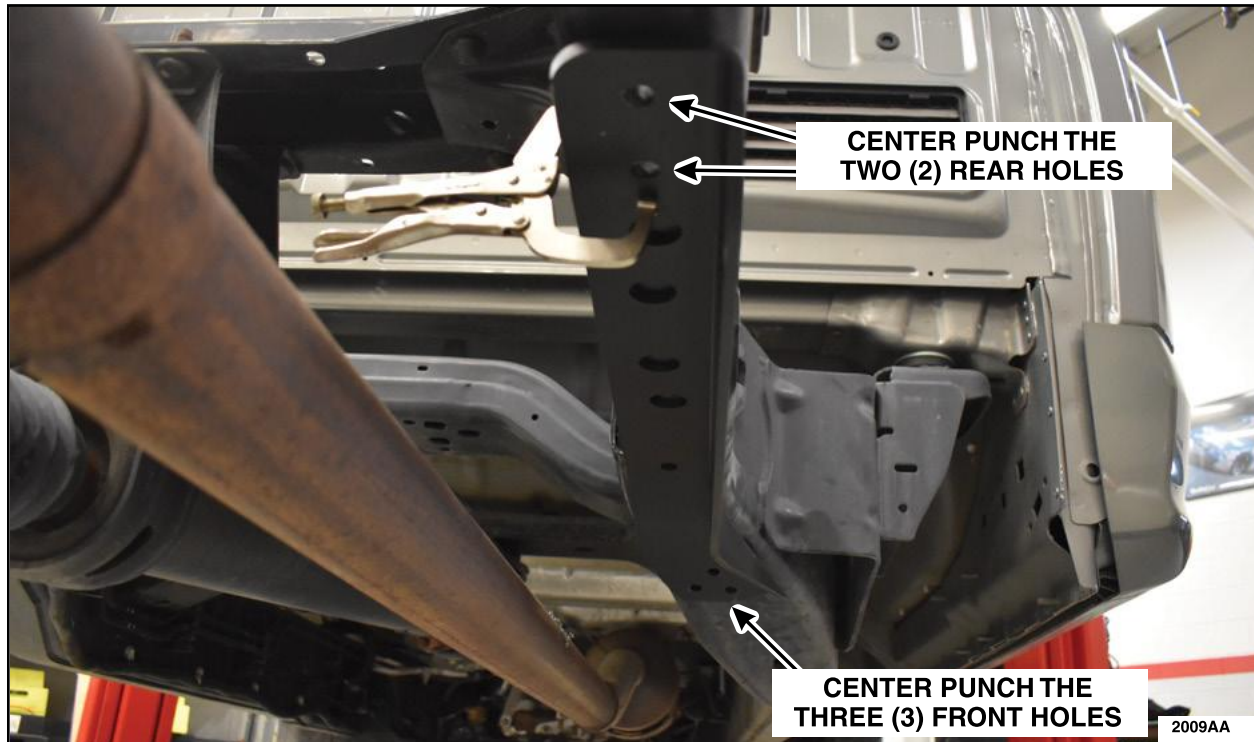

FIGURE 23
3. Using the bracket as a template, mark the center, with a center punch, of the three (3) front bracket to frame holes and two (2) rear bracket to frame rail holes. Remove the clamp and position the bracket aside at this time. See Figure 23.